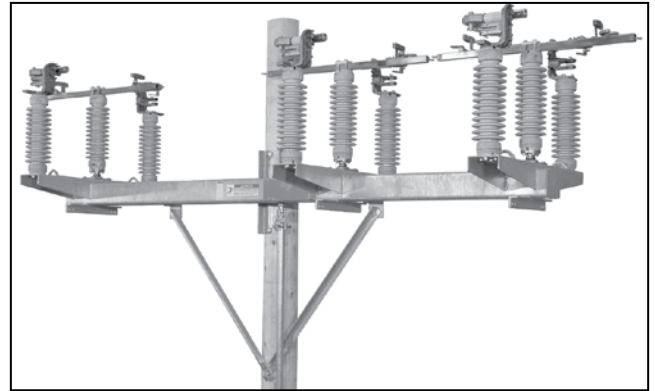

Figure 46. Check that the switch blades are 90 degrees from Closed position.
- (b) With the operating handle as far as it will go in the open direction, the switch blades are 90 degrees from the **Closed** position. See Figure 46.